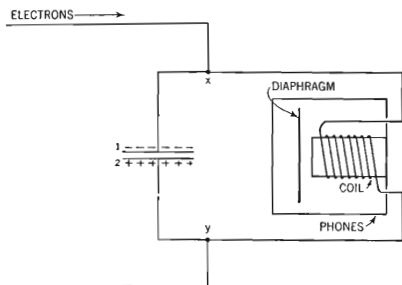

Fig. 55. Diagram showing how electrons flow through the phones.
58. Why is a fixed capacitor used across the phones? Across the phones (parallel to the phones) connect a fixed capacitor. The stream of electrons from the tuning circuit has already passed the detector and now approaches the phones, as indicated by the arrow in Figure 55. At point *x* this stream divides. One part attempts to pass through the coils of the phones, and the other part piles up electrons on plate 1 of the capacitor. The part attempting to pass through the phones encounters considerable difficulty because the many turns of thin wire in the coils in the phones present a good deal of resistance to the flow. Because of the very short duration of electron flow, only a few electrons find their way through. Most of the electrons, then, pile up on plate 1 of the capacitor.